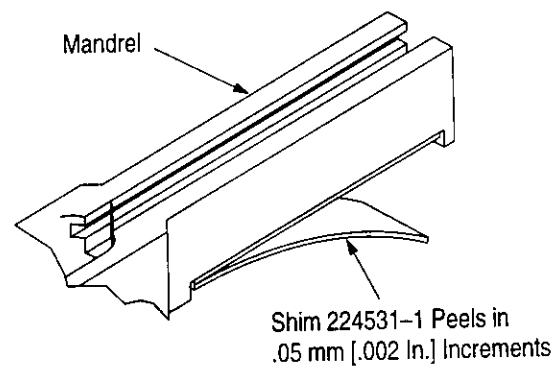

Figure 5
9. Peel shim (224531-1) to acquire the measured dimension. The shim will peel in .05 mm [.002 in.] increments. See Figure 5.
- Repositioned gages in Figure 5.